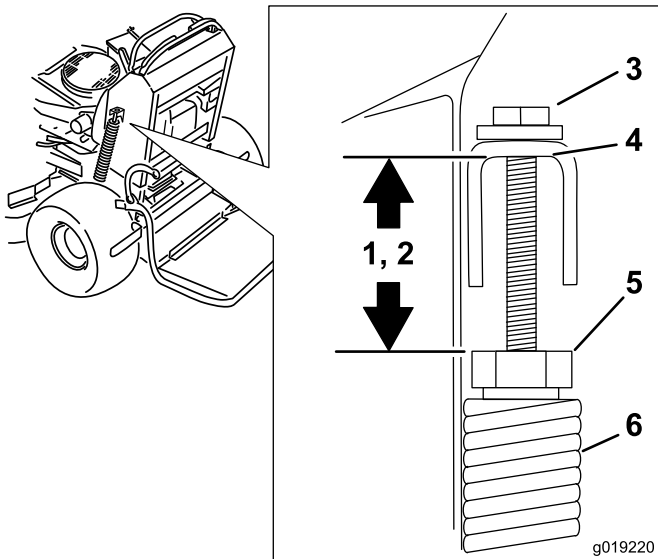

Figure 99
2. Check the length between the spring nut and the bottom of the welded U-bracket (Figure 99).
3. Ensure that the length is between 47 to 50 mm (1.8 to 2 inches) for 48 and 52-inch mower decks, and between 43 to 46 mm (1.7 to 1.8 inches) for 60-inch mower decks (Figure 99).
4. If needed, adjust the distance by adjusting the bolt on top of the U-bracket (Figure 99).